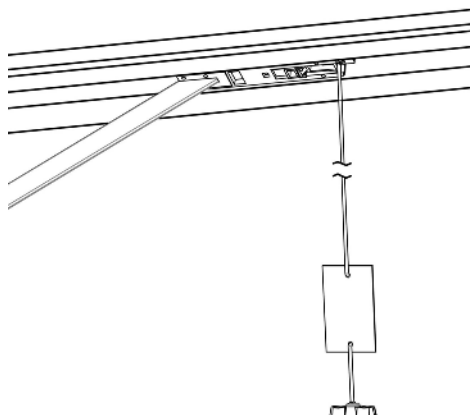

Fig. 8
- 9.1 To disengage the AGDO from the Garage Door, pull down on the disengage chord. (Fig.8)